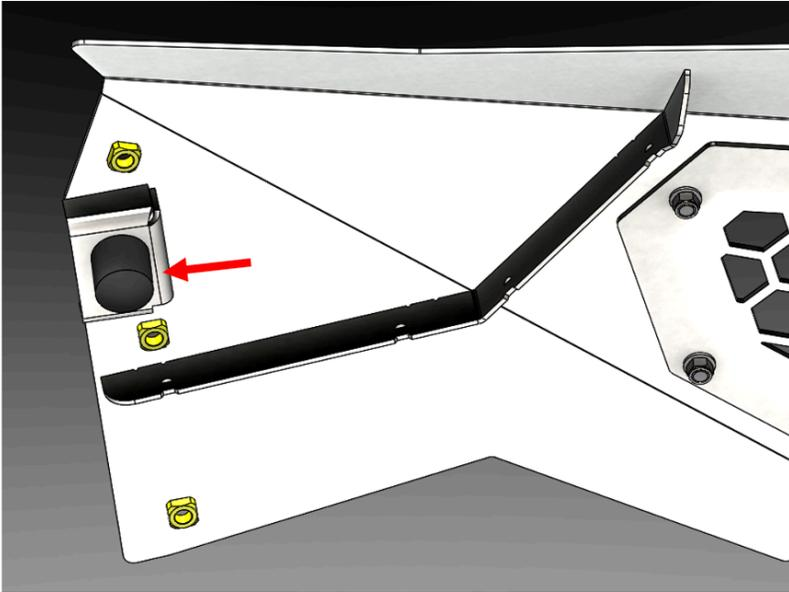

Figure 18.
18. Loosely install the rubber bumpers with  $\frac{1}{2}$ " washers to the visor. Figure 18.